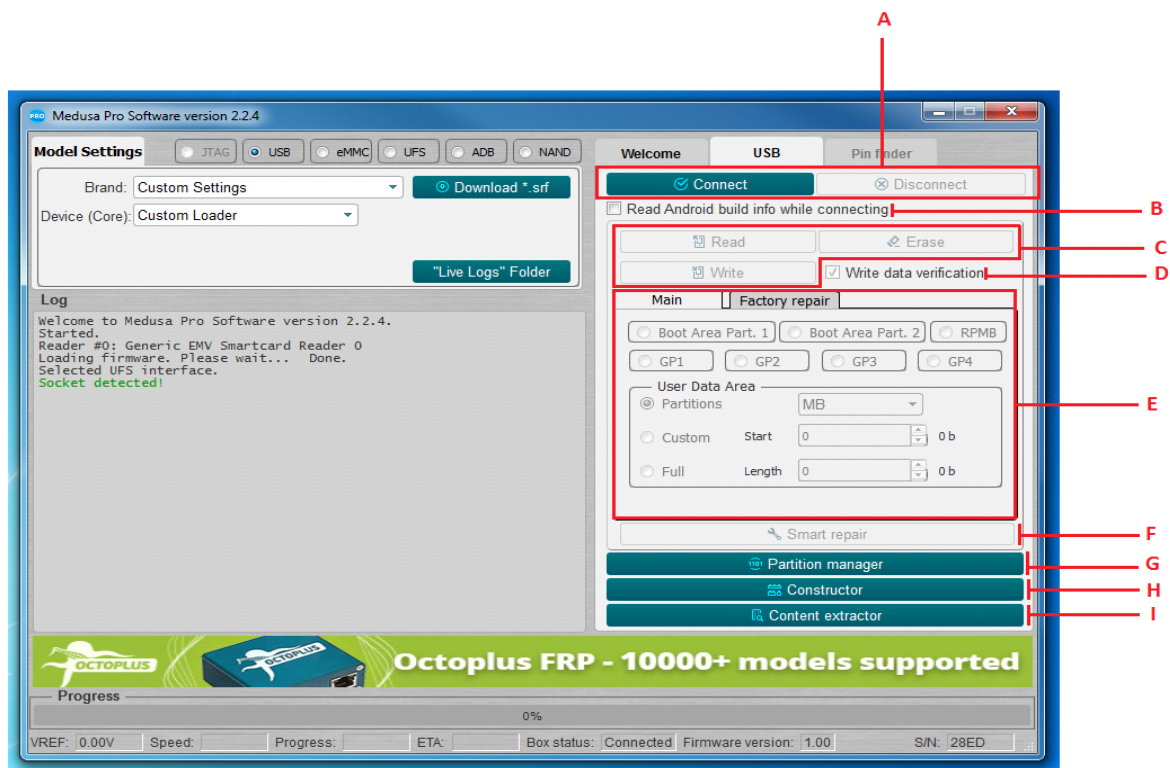

Fig. 2 Main Window, Interface Tab
- Initialize the device by pressing the "Connect" button (Fig. 2 (A));